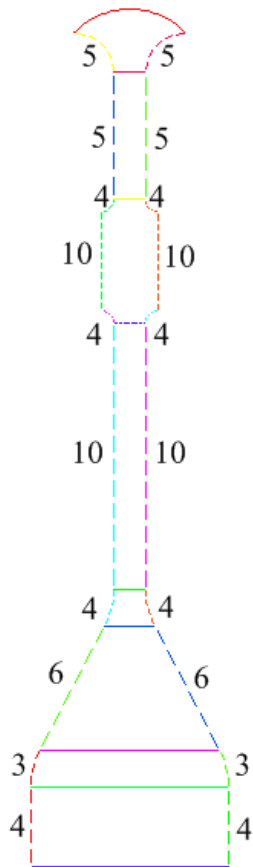

Fig. 6.18. Bladed disk
8) Specify the number of elements along edges of bladed disk as shown in Fig. 6.18.